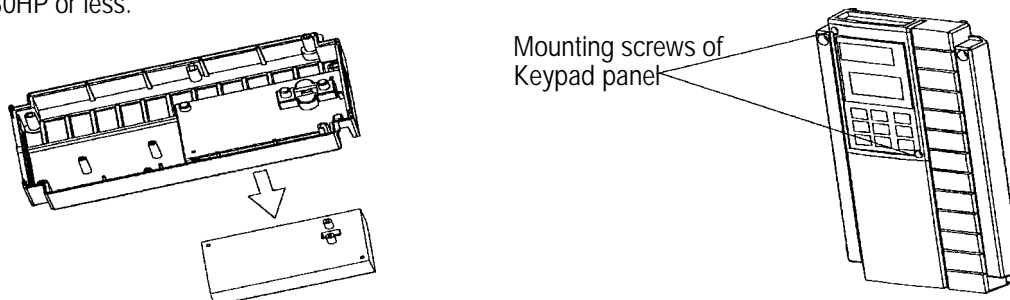

Fig.1-3-3 Removing the Keypad Panel (for drives of 30 HP or less)
(2) Removing the Keypad Panel
After removing the cover as explained in (1), loosen the keypad panel mounting screws and remove as shown in Figure 1.3.3 for drives 30HP or less.